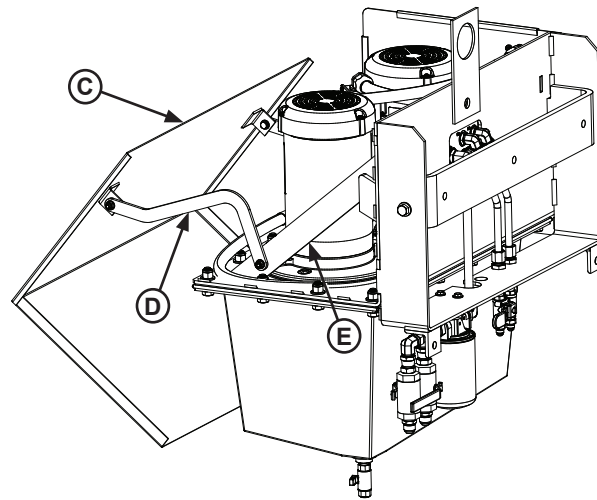

Figure 15
1. Install cover hinges (D) to pump station supports (E). Hinges mount to the outside of the supports; required hardware is loosely assembled on hinges during shipping. See Figure 15.
2. Connect cover to hinges to the outside of the cover mounts (C) as shown in Figure 15.